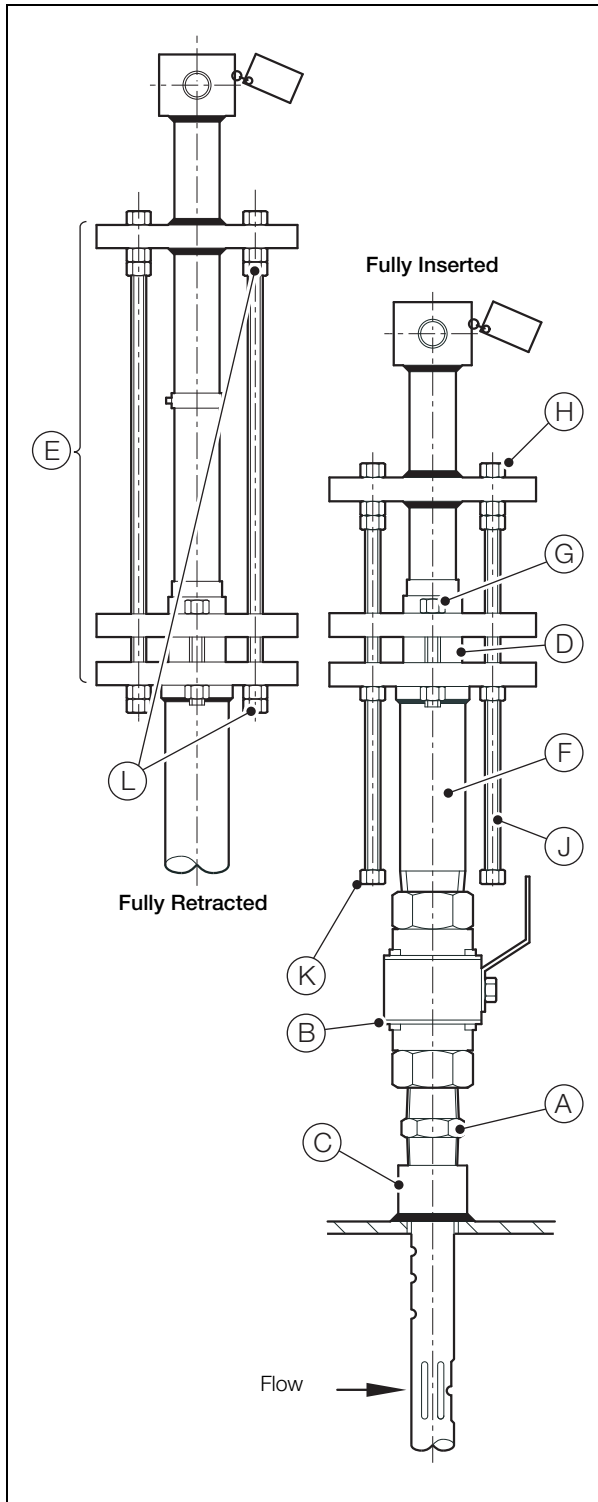

Fig. 2.12 Models H601 and H701 Installation
5. Referring to Fig. 2.12:
- a. Apply suitable sealant to the close nipple (A) and isolation valve (B) and fit them to the threaded fitting (C). Tighten securely.
- b. Attach hot-tap drilling equipment to isolation valve (B) in accordance with the manufacturer's instructions.